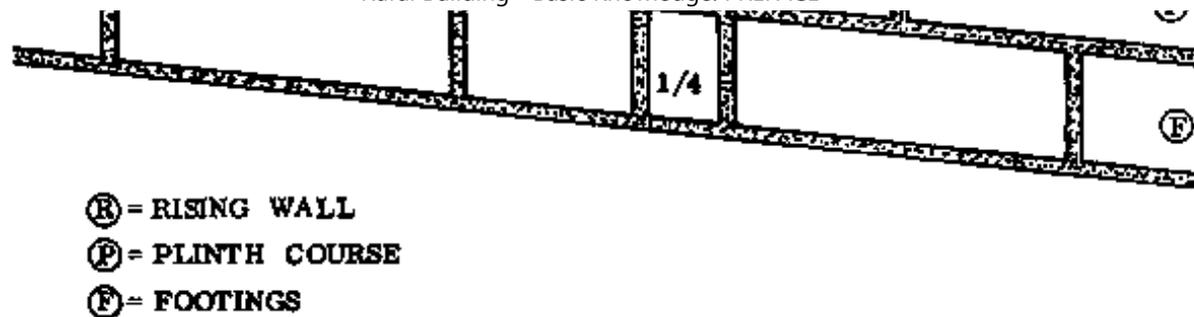

Fig. 1
- **PLINTH COURSE:** Except that the blocks are laid edgewise rather than flat, the plinth course is simply a repetition of the footing course two courses below (Fig. 1, blocks A & B).
The first block of the landcrete wall is the one which is shared by the inside and outside walls and covers two cross joints (Fig. 1, block C). It is followed in all three directions by full blocks.